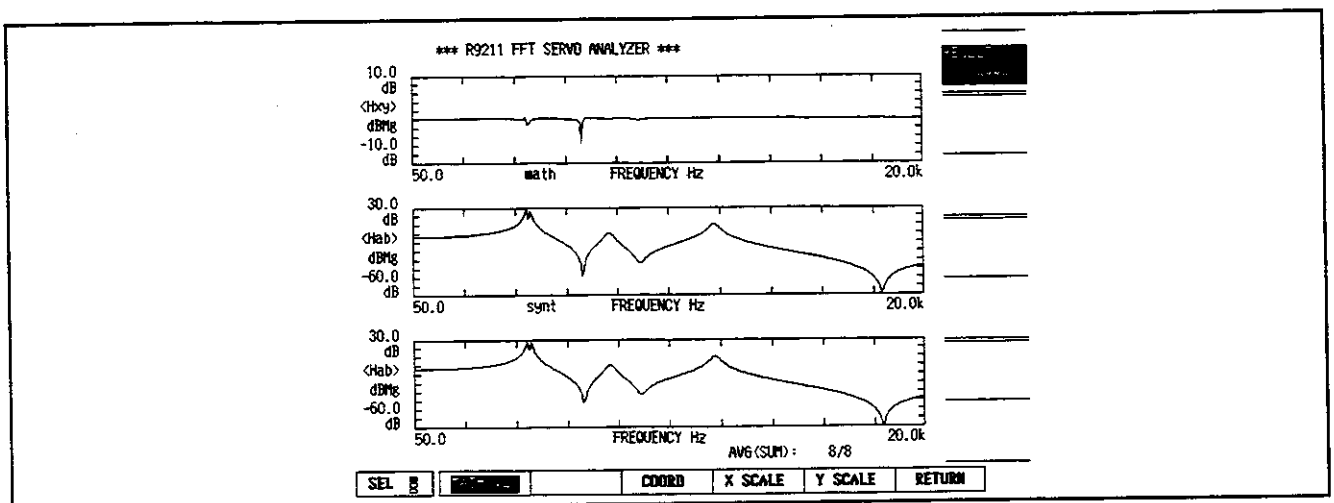

Figure 12-30 Comparison through X/Y Operation
- (9) Displays the operation result. (See Figure 12-30.)